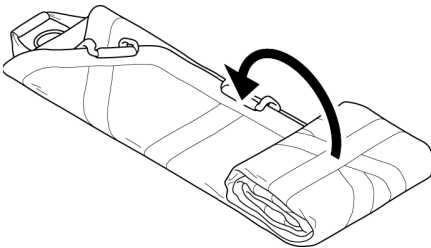

Figure 7
2. Starting at either end, roll up the Transfer Flat as shown in Figure 7.